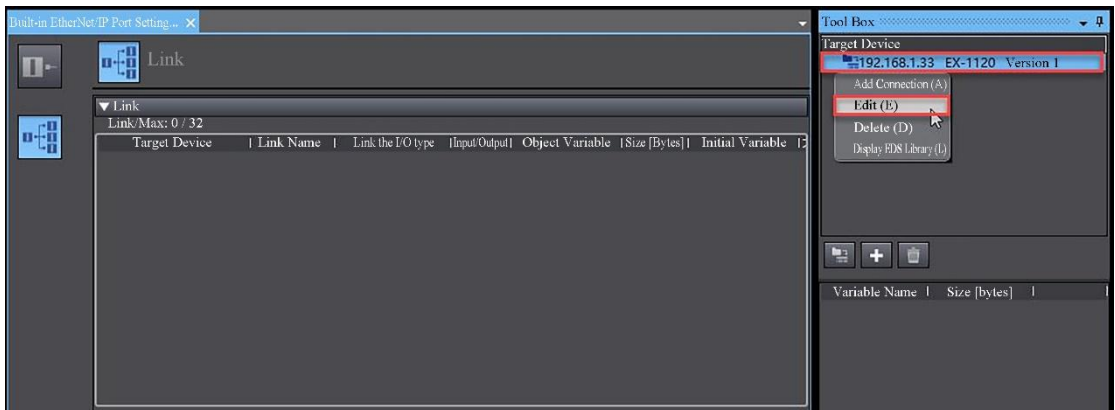

Figure 6-1-4 Editing ex-1120
- Ex-1120 output IO hold is configured by Omron Sysmac Studio programming software, as shown in Figure 6-1-4 and 6-1-5. **Clear** indicates that the output is not held, and **Hold** indicates that the output is held.